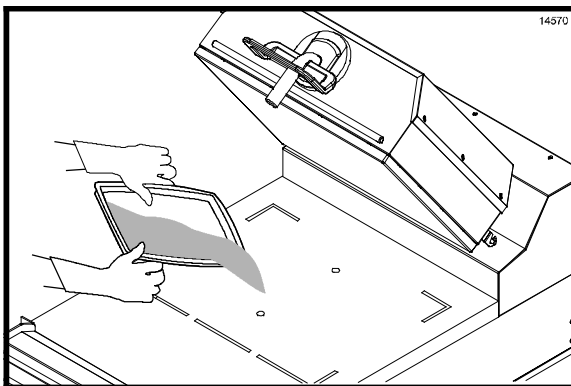

Figure 32
23. Pour the remaining **McD Hi-Temp Grill Cleaner (HTGC)** onto the lower grill surface. (See Figure 32.)